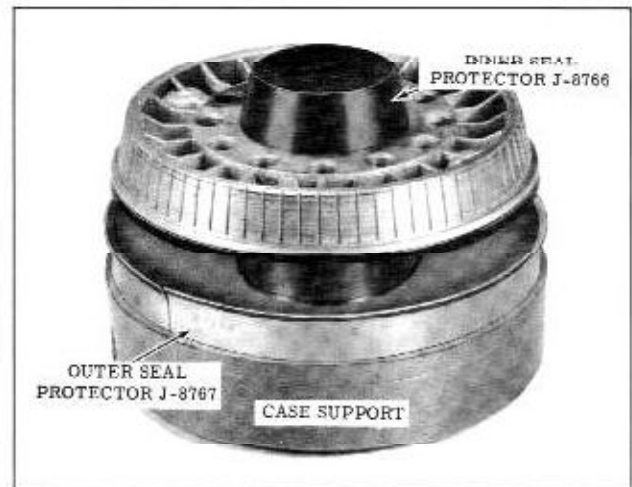

Fig. 3-72 Installing Reverse Piston
6. Install Inner Seal Protector Tool J-8766 over reverse piston hub and install Reverse Outer Seal Protector Tool J-8767 into case support. (Fig. 3-72)